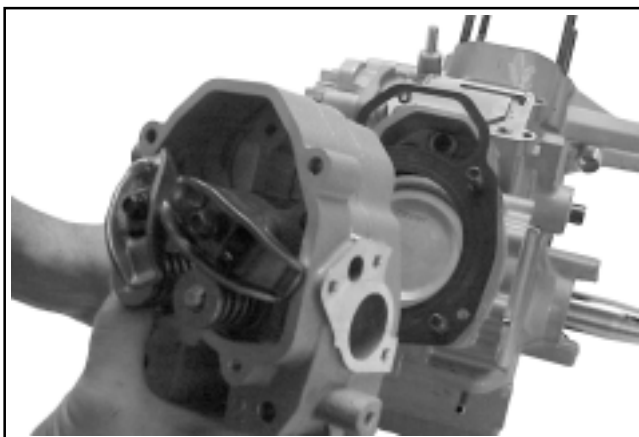

Figure 9-66. Removing Cylinder Heads and Gaskets.
5. Carefully remove the cylinder heads, and head gaskets. See Figure 9-66.